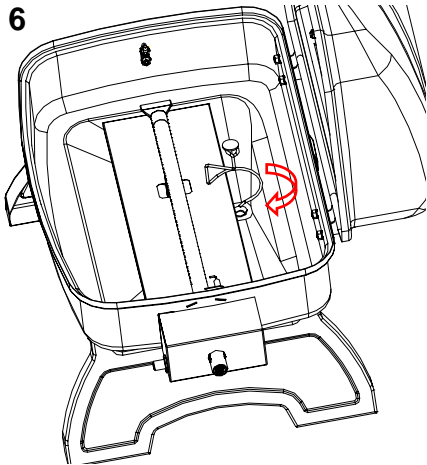

Fig. 6
*Procedure:* Insert the Grease Cup Wire Hook through the grease drain hole on the bottom of fire box, rotate clockwise until put in place as shown in Fig. 6.